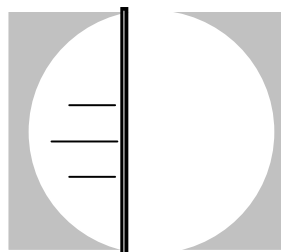

Figure 5-8 Two lines get closer
4. Turn the measuring knob to move the two lines closer and only a very thin and very weak light beam is seen. Refer to Figure 5-8. Then touch **<ZERO>** to zero the D1, D2. Turn the measuring knob to move the right line.